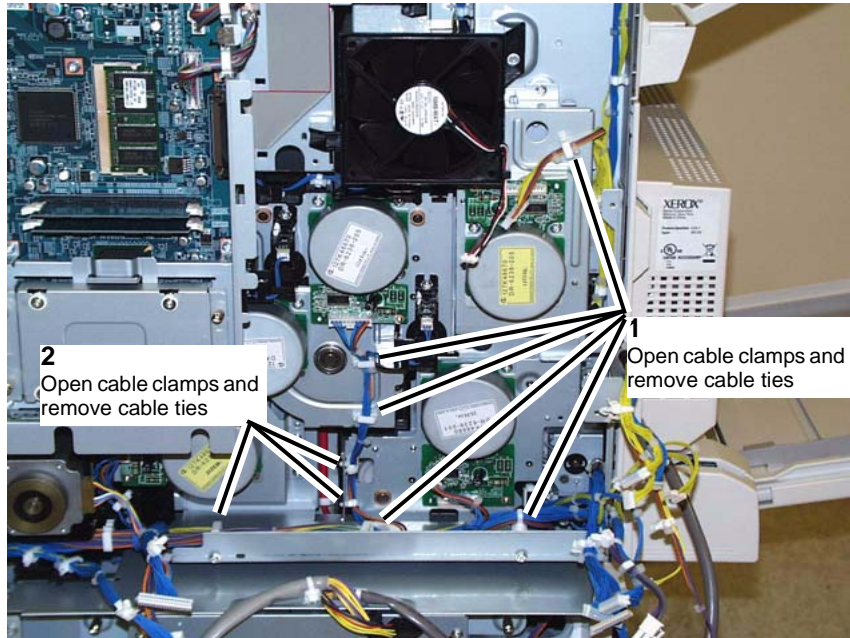

Figure 3 Disconnecting the cable ties and opening cable clamps
6. Remove the cable harnesses from the harness clamps and remove the cable ties from the frame. (Figure 3)